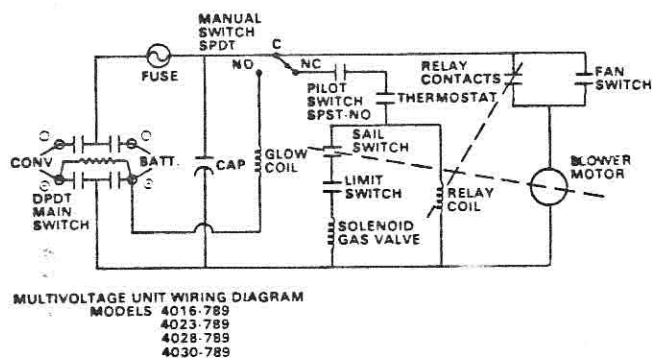
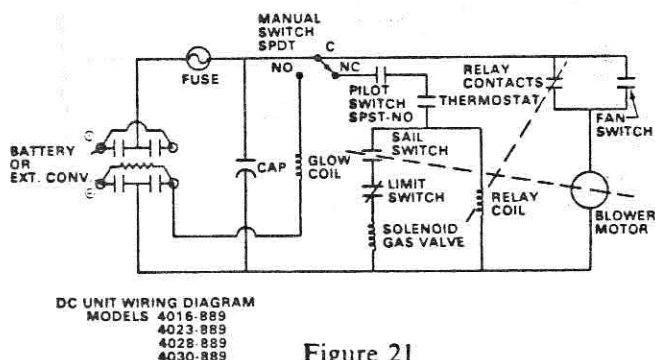

Figure 20
Figure 21
6. After lighting the pilot, the electrical circuit is completed up to the thermostat. (See Figure 20 and Figure 21). When the thermostat calls for heat (closes contacts), the relay coil is energized and the relay contacts are closed.